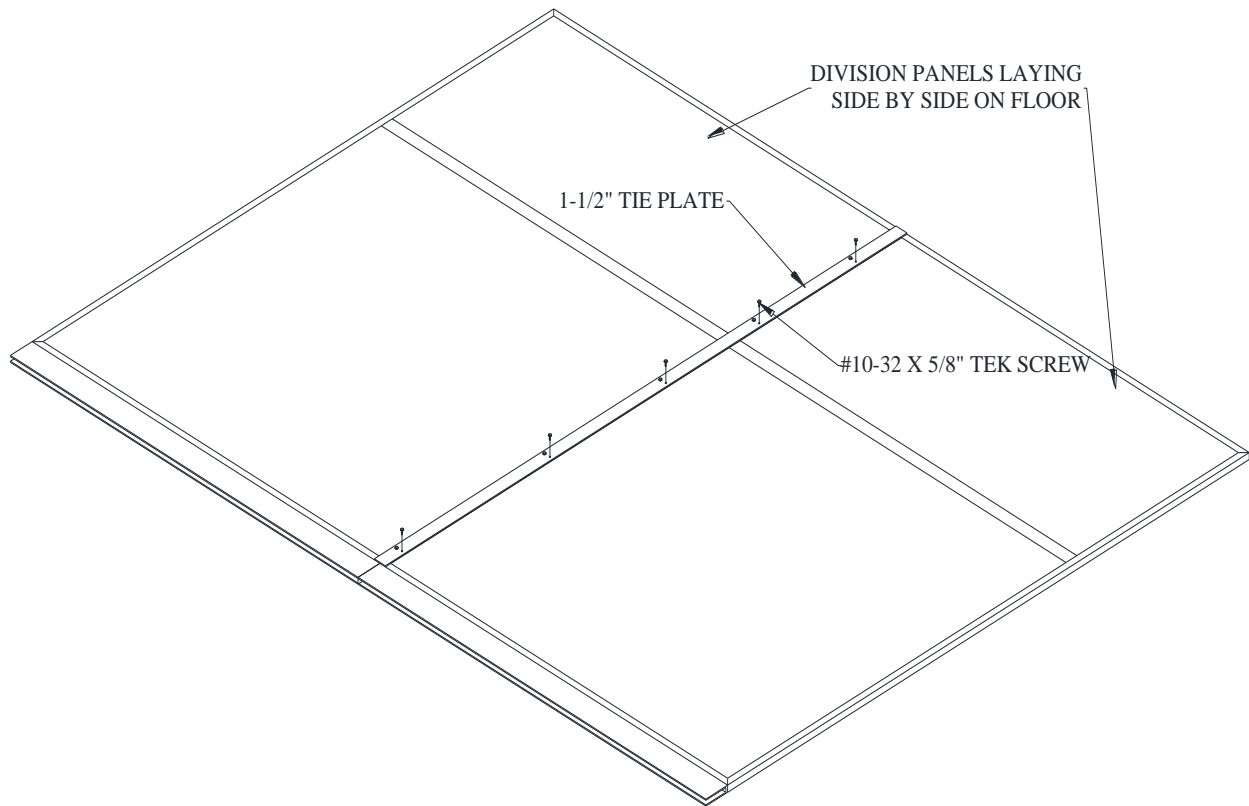

Figure B.2
4. Using the #10-32 x 5/8” TEK screws provided, connect the panel to the tie plate by fastening a screw into the panel. Fasten the screw into the tie plate/ panel adjacent to the existing screws (Figure B.2).